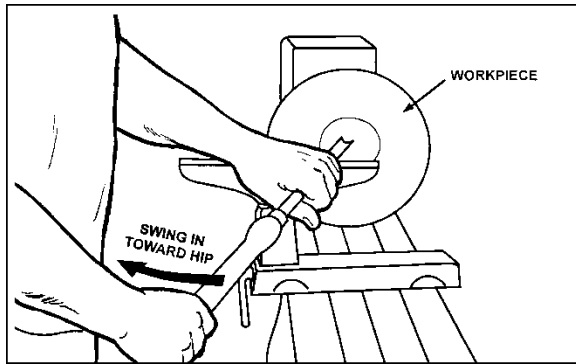

Figure 35
5. Place 1/2" bowl gouge on tool support at center of the workpiece with the flute facing top of bowl. The tool handle should be level and pointed toward the four o'clock position, as shown in Figure 35.
6. Use the left hand to control cutting edge of gouge, while right hand swings tool handle around toward your body (Figure 35). The flute should start out facing top of workpiece, and rotate upward as it moves deeper into the bowl to maintain a clean even curve. As the tool goes deeper into the bowl, progressively work out toward the rim. It may be necessary to turn the tool support into the piece as you get deeper into the bowl.